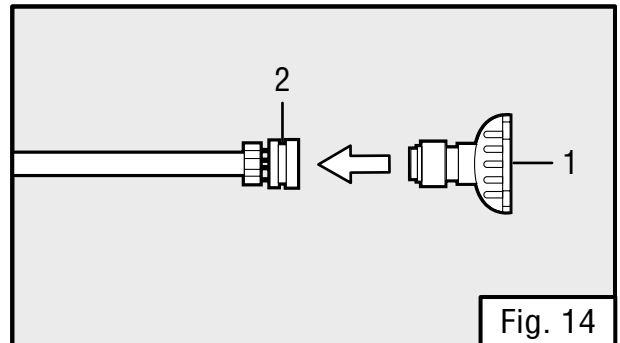

Fig. 14
USING THE SPRAY NOZZLE (FIG. 14)
1. To connect or disconnect spray tip (Fig. 14 - 1), pull back on the quick-connect collar (Fig. 14 - 2). Insert or remove spray tip then release the collar.